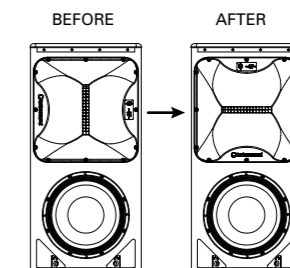

Fig. 6
13. Check all components and confirm the horn orientation is correct (fig 6).